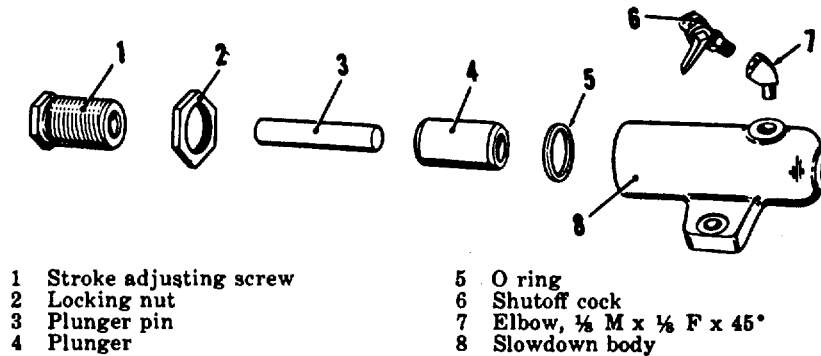

Figure 46. Exploded view of slowdown assembly.
(1) Disconnect the tube assembly (25) from the elbow (23).
(2) Remove the two hex head bolts (24) and lockwashers (21) and lift the slowdown assembly (20) from the crankcase cover.
(3) Unscrew the tee (17) from the slowdown assembly.
b. Disassembly (fig. 46).
(1) Unscrew the shutoff cock (6) and elbow (7) from the slowdown body (8).
(2) Loosen the locking nut (2) and unscrew the stroke adjusting screw (1) from the slowdown body.
(3) Remove the plunger pin (3) and plunger (4) and slip the O ring (5) from the groove in the slowdown body.
(1) Clean all parts thoroughly with a clean, lint-free cloth, and wipe the exterior of the slowdown body with a cloth dampened with cleaning solvent.
(2) Inspect all parts carefully for physical damage. The plunger and inner walls of the body should be free of deep grooves or scratches which might impair the operating efficiency of the assembly. Replace damaged parts.
d. *Reassembly* (fig. 46).
- (1) Slip a new O ring (5) into the groove around the inside of the slowdown body (8), and insert the plunger (4) down into place.
- (2) Assemble the plunger pin (3) into the adjusting screw (1) and screw the adjusting screw into the slowdown body.
- (3) Install the elbow (7) and shutoff cock (6).
- (1) Screw the tube tee (17), with elbows (19 and 23) and drain cock (18) attached, into the slowdown body.
- (2) Fasten the slowdown assembly to the crankcase cover with the two hex head bolts (24) and lockwashers (21). The slowdown plunger pin must engage the lower end of the governor lever.
- (3) Connect the tube assembly (25) to the elbow (23).
f. *Slowdown Stroke Adjustment.* The slowdown assembly should not be adjusted unless the engine does not return to idle speed when the compressor unloads. Lengthen the slowdown stroke, to further reduce engine speed, by loosening the locking nut (2, fig. 46) and turning out the stroke adjusting screw (1). Tighten the locking nut. Check operation. If the engine still runs too fast with an unloaded compressor, turn the stroke adjusting nut out further. To increase the engine speed while the compressor is unloaded, reverse the above procedure.